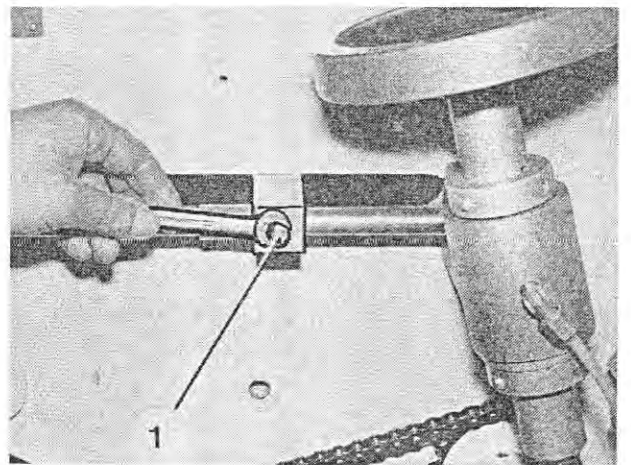

Fig. 166
4.1 In the case of wrapper advance with a photocell, loosen the locking screw (Figure 166/1) and adjust the retainer of the photocell to the mark which corresponds to the format. Tighten the locking screw.